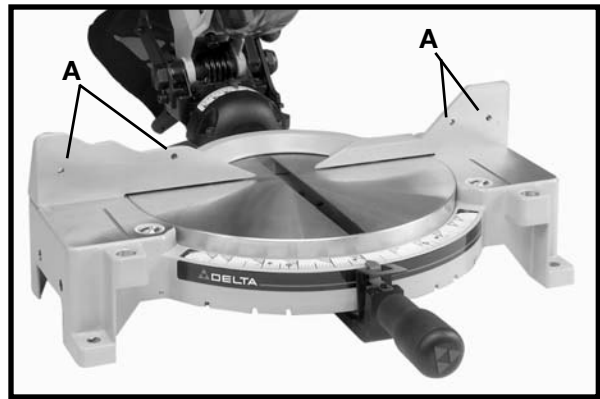

Fig. 36
Holes are provided in the fence (A) Fig. 36 to attach an auxiliary fence. This auxiliary fence is constructed of straight wood approximately 1/2 inch thick by 3 inches high by 20 inches long. **NOTE:** The auxiliary fence (A) is used **ONLY** with the saw blade in the 0 degree bevel position (90 degrees to the table). When bevel cutting (blade tilted) the auxiliary fence will have to be removed.